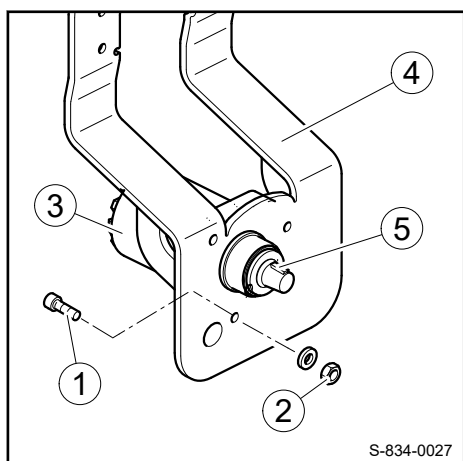
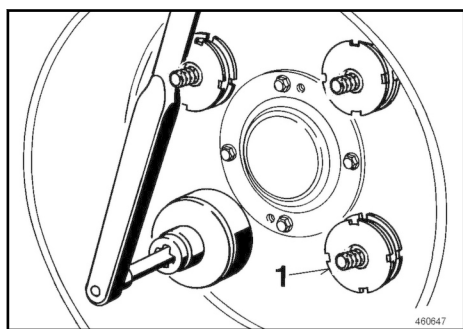

Fig. 218
Fig. 219
5. Disassemble fastening screws 1 ↪ Fig. 218, washers and nuts (2).
6. Remove the travel motor (3) from the support leg (4).
7. Disassemble the feather key (5).
8. Check the rubber buffers 1 ↪ Fig. 219, unscrew and replace if necessary.